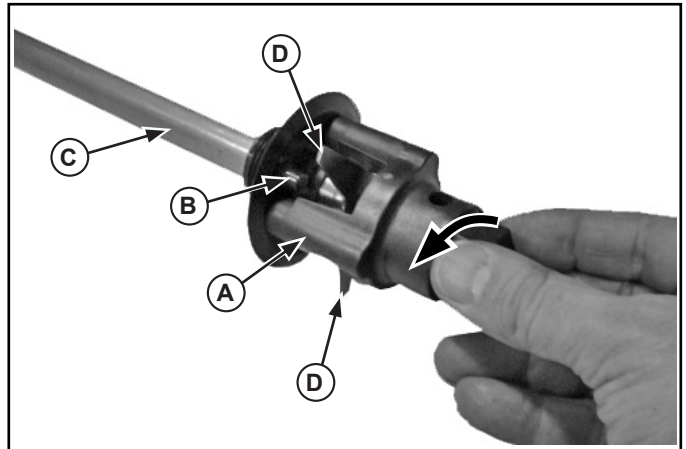

Figure 9. Removal of Old Blades.
5. Take the blade tool (A) off the posts (B) on the blade shaft assembly (C). Place the blade tool (A) so that it straddles the blades (D) as shown in Figure 9.
6. Hold the blade assembly shaft and rotate in counterclockwise direction. See Figure 9. A tool may be necessary to rotate the blades off.